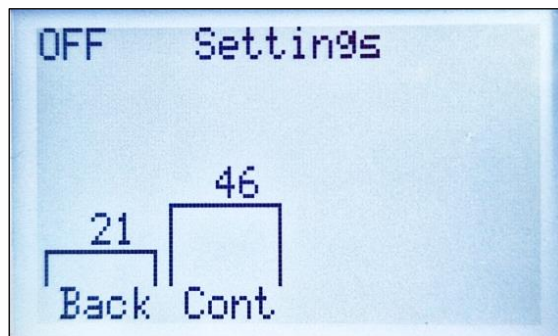

Figure 2: Settings screen accessed by holding 'mode' button of manual control pod
1. Hold the 'mode' button on the manual control pod, until the 'Settings' screen appears (Figure 2).